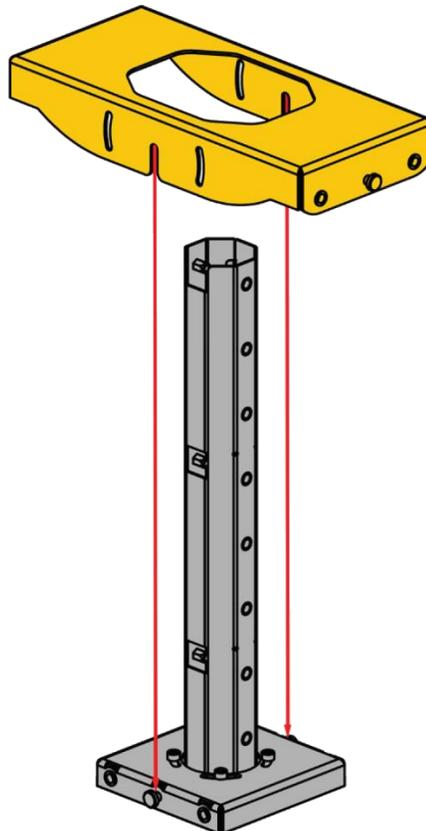

Figure 80:
Step 6: Slide the middle plate ⑤ over the lower tube ③ and top plate ④, as shown in **Figure 80**.